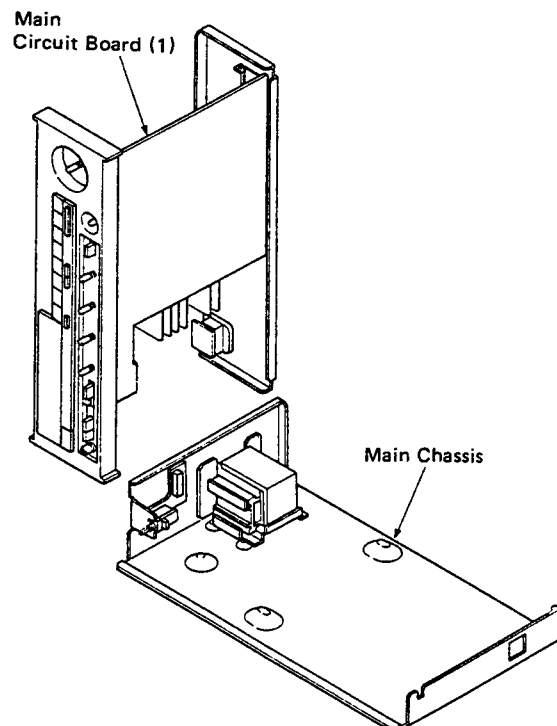

Fig. 2
- c. Remove the Main Chassis as shown in Fig. 2